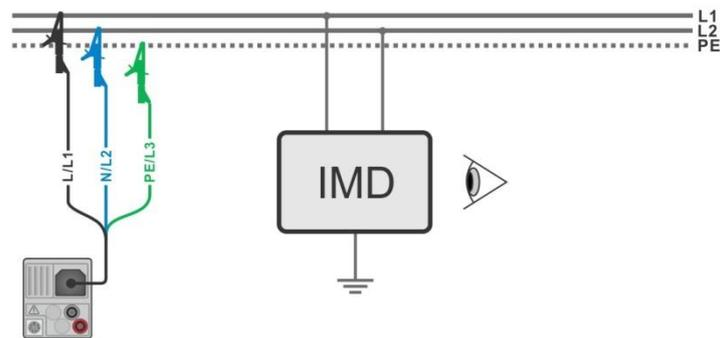

Figure 7.104: AUTO IT measurement
- › Connect test leads to the object under test, see **Figure 7.104**.